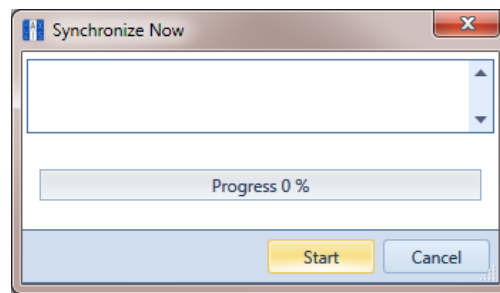

Figure 16-15. Synchronize Now
- 1 Synchronize data between the subscription and publication databases. Click **Tools** > **Synchronize Now** (Figure 16-15).